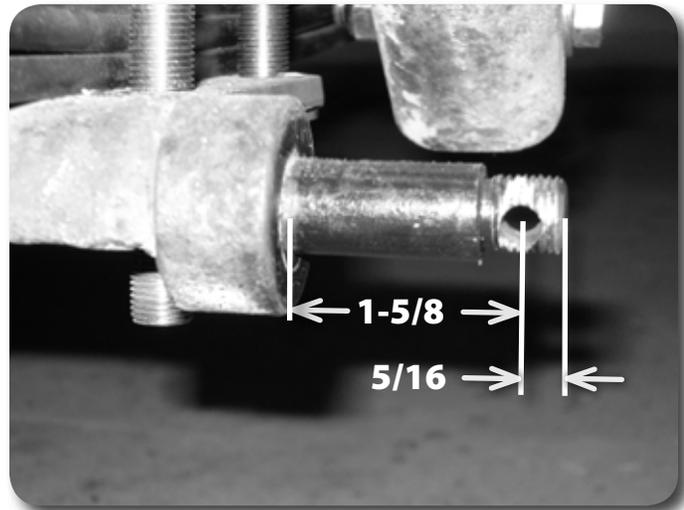

Figure 1
3. Measure 1 5/8" from the surface of the mounting stud and mark the center of the thread. Using a center punch, make a detent in the threads to mark the drill center. Using a 1/4" drill bit, drill a hole through the mounting stud using care to make sure the hole remains centered and square to the stud. **Figure 1**
4. As shown in **Figure 1**, it is helpful to cut some of the thread from the stud to provide easier disconnect operation. Remove approximately 1/4" from the end of the stud with a hack saw or other suitable cut-off tool leaving approximately 1/8"-3/16" of material from the edge of the drilled hole. Remove any burrs from the cut edge with a file.